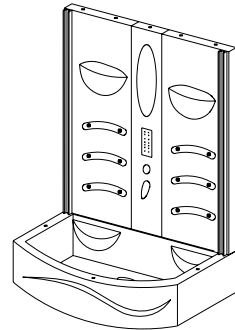

Fig.3
3. Install the wall. Put the wall on the bathtub, and then join the wall with the bathtub by bolts at the corresponding holes. Notice: Install the gaskets and the nuts, but don't tighten them. As fig.3